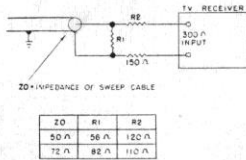

FIG. 3 - IMPEDANCE MATCHING NETWORK
28. Adjust the sweep generator to channel 13 (210 to 216 mc.), and connect its output cable to the receiver antenna terminals through the impedance matching network shown in Fig. 3. Keep the leads as short as possible.